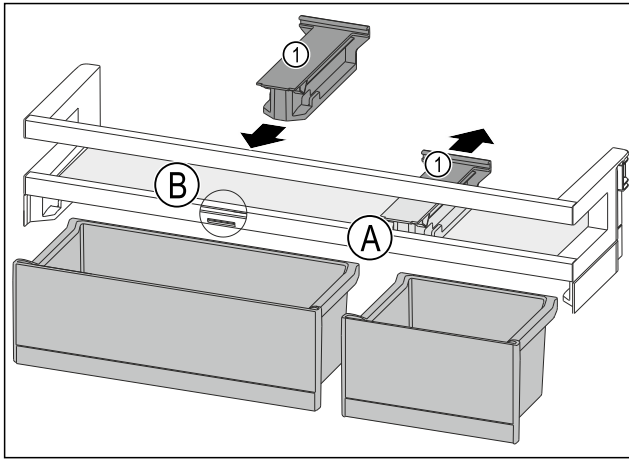

Fig. 189
- ▶ Take off the holding part Fig. 189 (1) in position Fig. 189 (A) backwards.
- ▶ Insert the holding part Fig. 189 (1) in position Fig. 189 (B).